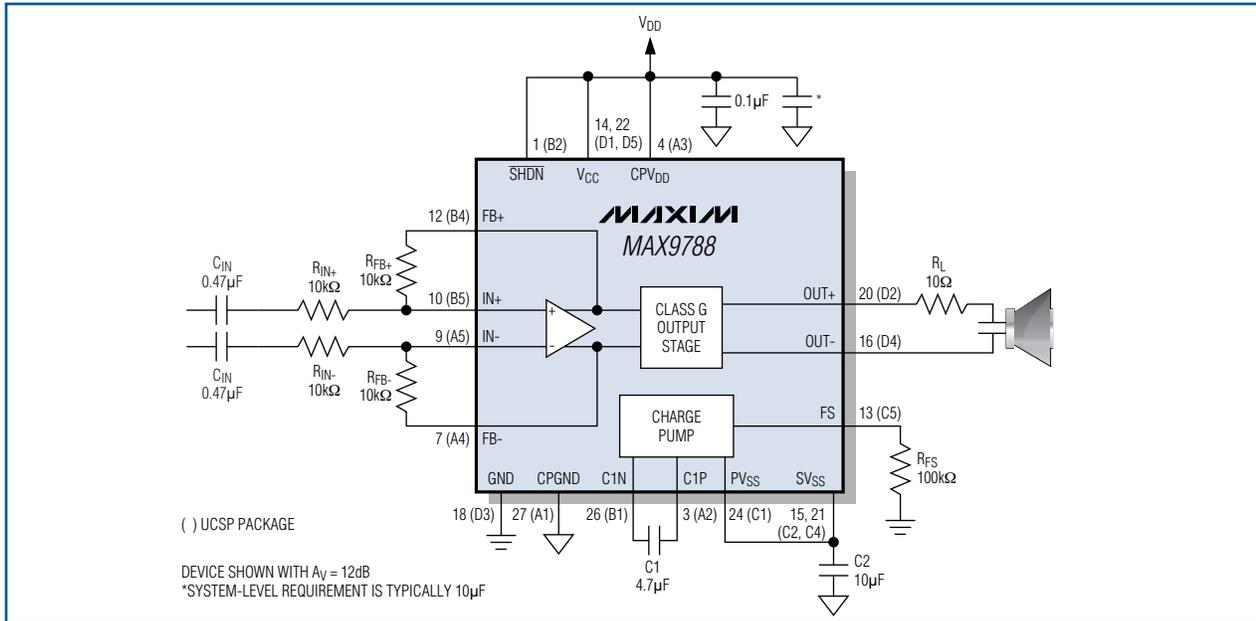

Figure 4. The MAX9788 is shown in a typical ceramic speaker application circuit.
**Figure 4** shows an applications circuit using a MAX9788 Class G amplifier. Class G amplifiers have two voltage rails, one high and one low. The low-voltage rail is used when the output signal is small. The high-voltage rail is switched onto the output stage when the output signal demands a higher voltage swing. Because of its lower power-supply rail, the Class G amplifier is more efficient than a Class AB amplifier when the output signal is small. The Class G amplifier can still handle peak transients because of the higher available rail.
The MAX9788 shown in Figure 4 uses an on-chip charge pump to generate a negative rail that is the inverse of  $V_{DD}$ . This negative rail is only applied to the output stage when the output signal demands the higher rail. This device provides a more efficient method of driving a ceramic speaker than traditional methods that use a Class AB amplifier with a boost converter.
Speaker manufacturers always recommend a fixed resistance ( $R_L$ ) in series with the ceramic speaker, as shown in Figure 4. This resistor acts to limit the amplifier's current output when the signal contains a great deal of
Contemporary ceramic speakers have a capacitance of approximately  $1\mu\text{F}$ . The impedance of the Figure 4 speaker is  $20\Omega$  at  $8\text{kHz}$  and  $10\Omega$  at  $16\text{kHz}$ . Future ceramic speakers may have a larger capacitance that will force amplifiers to deliver even more current for the same signal frequency.
Though a ceramic speaker itself does not dissipate real power as heat like dynamic speakers do, heat is generated in the driving amplifier's output stage and in the external resistor ( $R_L$ ) placed between the amp and the speaker (Figure 4). The larger the external resistor, the more power dissipation is moved off of the amplifier, at the expense of low-frequency response.